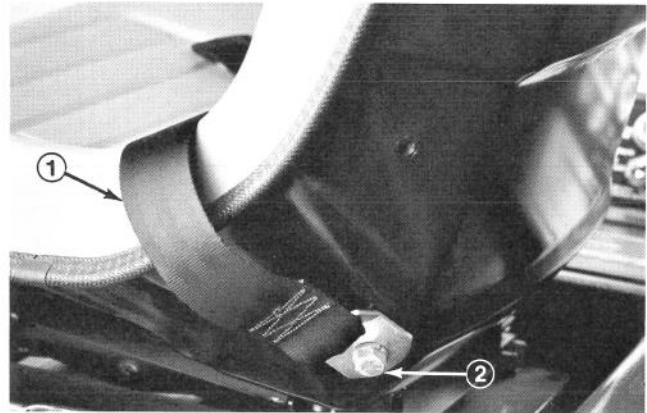

Figure 14
1. Install seat belt to holes in back of seat with (2) 7/16 x 1" lg. bolts and lockwashers (Fig.14). Tighten securely.